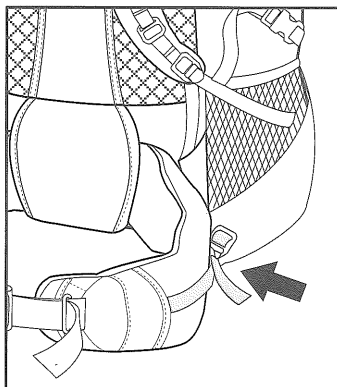

Figure 2I
F. OPTIONAL- Pull the belt stabilizers just snug (Figure 2I). If overtightening them feels good, you might need to bend more curve into the frame in the lumbar region. Overtightening causes gaps between you and the belt. Belt stabilizers are best left loose for the first 15-30 minutes of hiking.